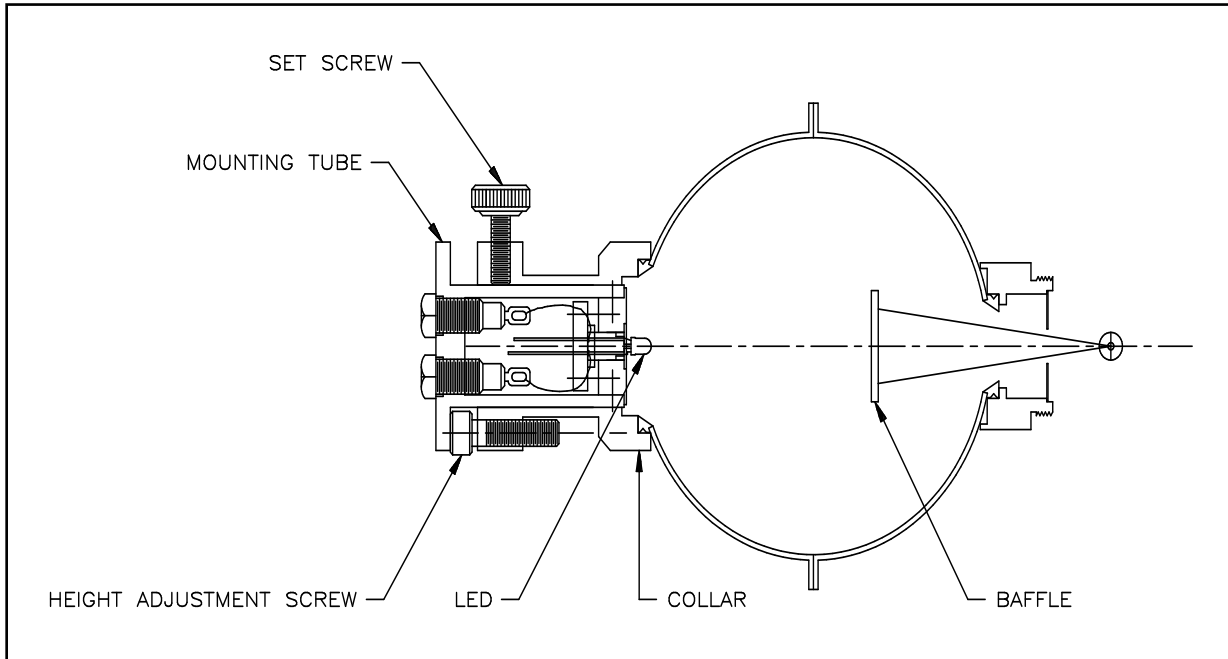

FIGURE 63 – IS-730 INSIDE VIEW
The IS-730 is a 3 inch sphere designed to measure the total luminous flux (lumens) or radiant flux (watts) of LEDs or other small source such as miniature lamps. This accessory consists of a sphere with baffle and LED Mounting Tube (See Figure 63). During operation, the LED is inserted into the interior end of the Mounting Tube, the Adjustment Screw is set so that the tip of the LED protrudes precisely 0.100 inches into the sphere, and the measurement is conducted. The power cables for the LED (plus and minus current) are connected via mini banana jacks located on the anterior end of the mounting tube.
1. Loosen the Set Screw (see Figure 63) by turning it counter-clockwise.
1. Referring to Figure 63, position the tip of the LED so that it is directly adjacent to the Height Adjustment Screw, and resting on the outside surface of the Collar.